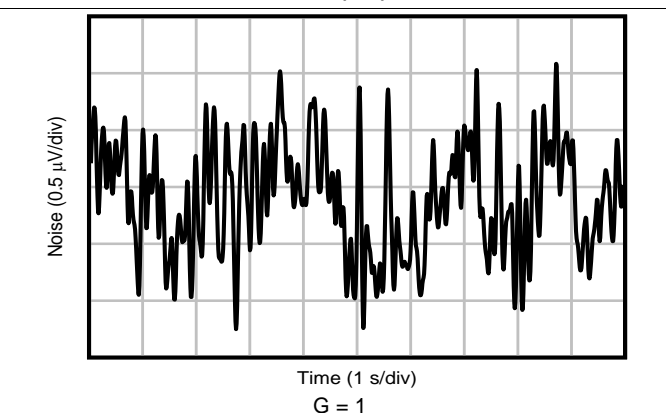

Figure 24. 0.1-Hz to 10-Hz RTI Voltage Noise G = 1
0.1-Hz to 10-Hz RTI Voltage Noise $G = 1$	<a href="#">Figure 24</a>